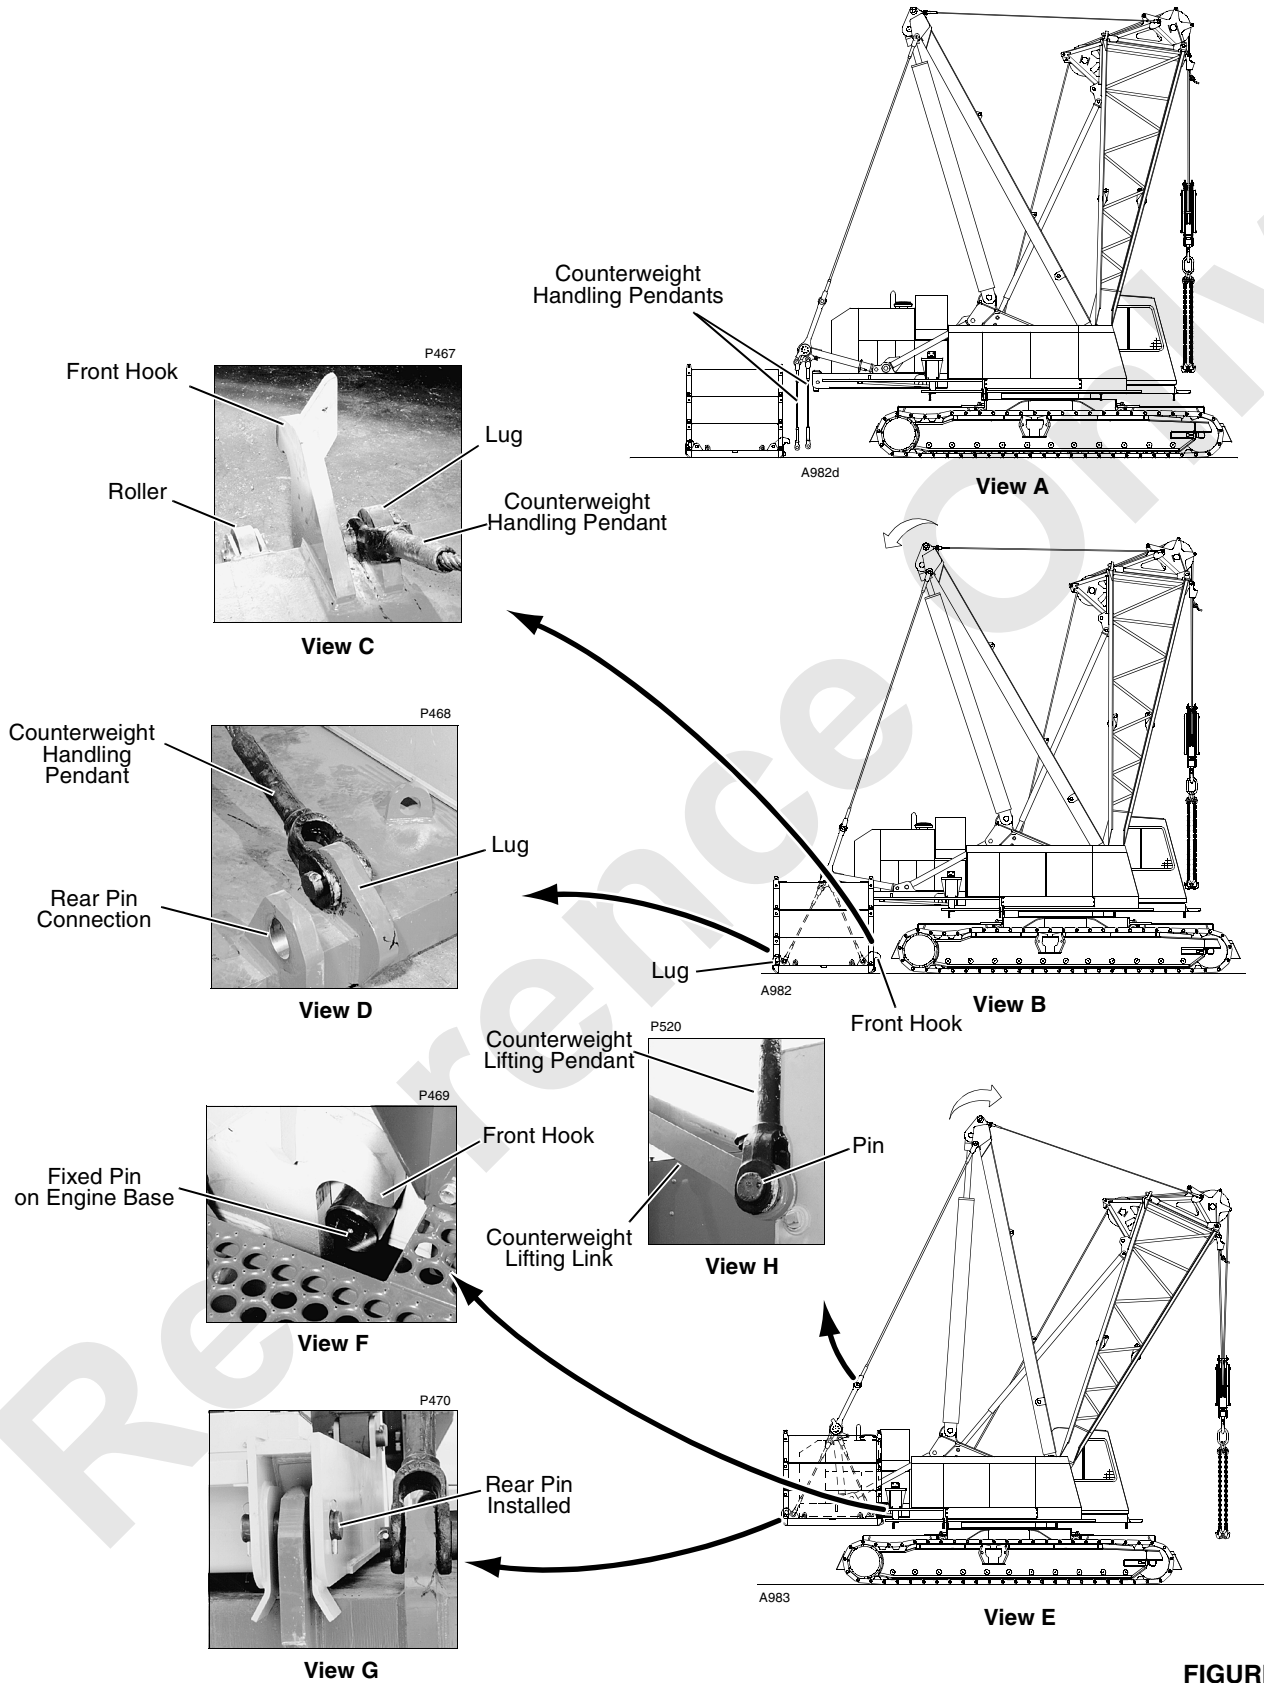

FIGURE 4-10
11. Raise boom butt until handling pendants are hanging approximately 6 in. (152 mm) above ground (Figure 4-10, View A).
12. Position crane so it is in-line and centered with upper counterweight assembly (Figure 4-10, View B).
13. Connect counterweight handling pendants to lugs on counterweight tray (Figure 4-10, Views C and D).
14. Raise counterweight until front hooks on counterweight tray engage fixed pins on engine base (Figure 4-10, View F).
16. Install rear pins between engine base and counterweight tray (Figure 4-10, View G).
17. Raise boom butt until counterweight lifting links are fully lowered (Figure 4-10, View H).
18. Disconnect counterweight lifting pendants from counterweight lifting links (Figure 4-10, View H). Same pins are used in step 20.